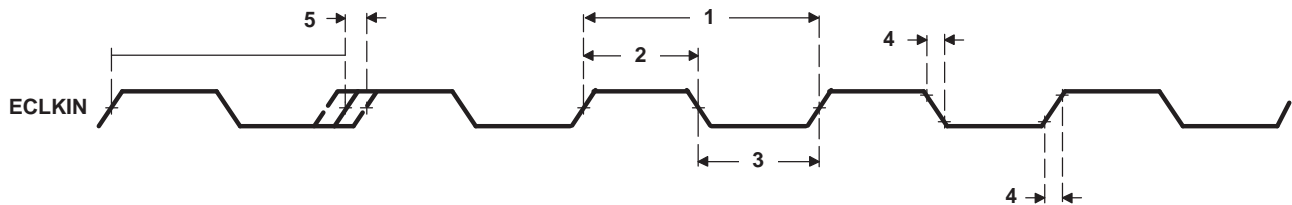

Figure 5-8. ECLKIN Timing for EMIFA and EMIFB
5.1.4 Timing Requirements ECLKIN for EMIFA and EMIFB ^{(1) (2) (3)} (see Figure 5-8)